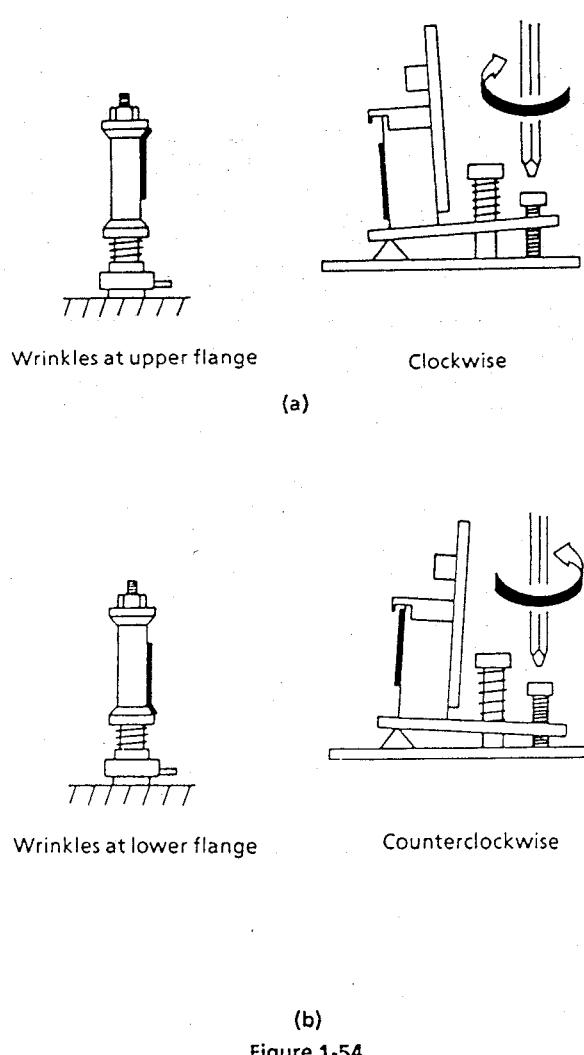

Figure 1-54.
- 1) Wrinkles at the upper flange : Turn the above adjusting screw clockwise, as shown in Fig. 1-54 (a).
- 2) Wrinkles at the lower flange : Turn the above adjusting screw counterclockwise, as shown in Fig. 1-54 (b).